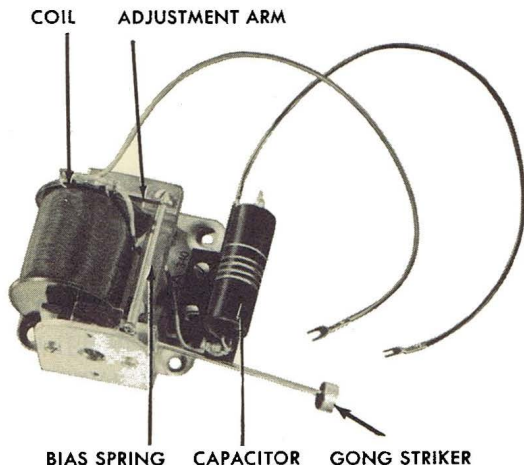

Figure 20. Biased Ringer.
f. Bias Spring Adjustment. Adjust the bias spring tension (fig. 20) to the maximum value that will yield a satisfactory ring. To adjust this spring, use a pair of duck-billed pliers. Move the adjusting arm toward or away from the coil, depending upon the tension required.